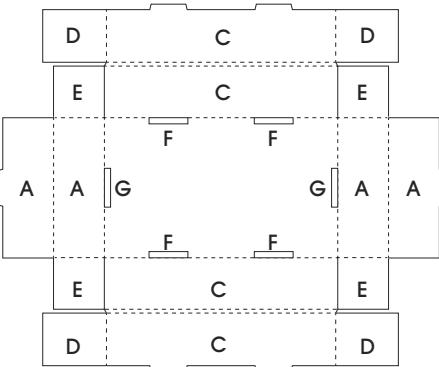

Figure 2
2. Unfold all flaps. (See Figure 2)